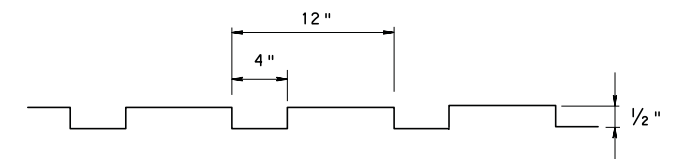

FIGURE 1
1. NAIL 1/2" x 4" PLYWOOD STRIPS IN PLACE AT 12" SPACING TO FORM GROOVES. APPLY 4.75 MM SUPERPAVE BITUMINOUS OVERLAY, THEN REMOVE PLYWOOD STRIPS (SEE FIGURE 1).